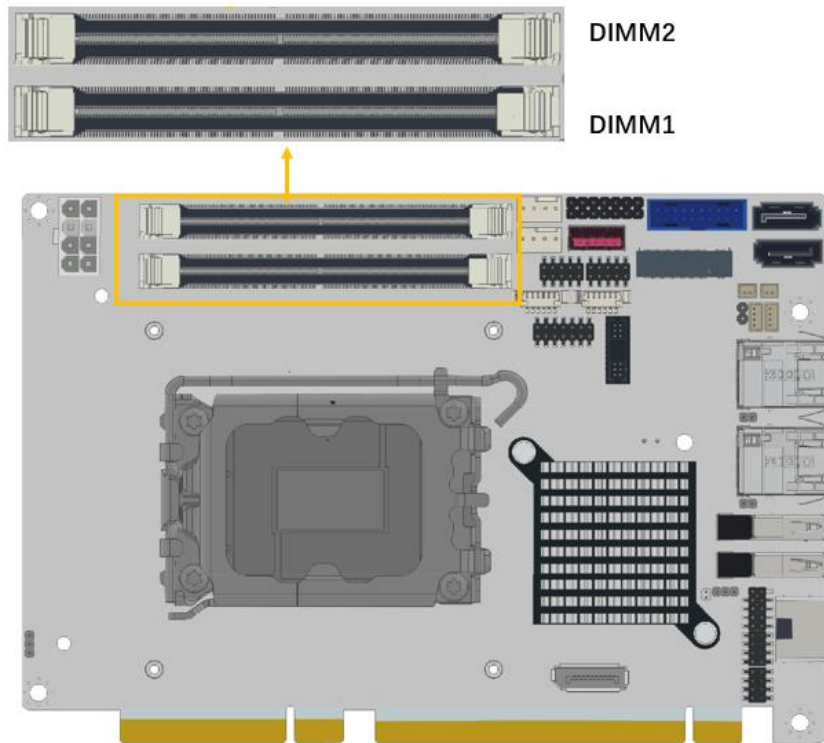

Figure 3-20: DDR5 SO-DIMM Sockets Locations
- CN Location:** See **Figure 3-20**